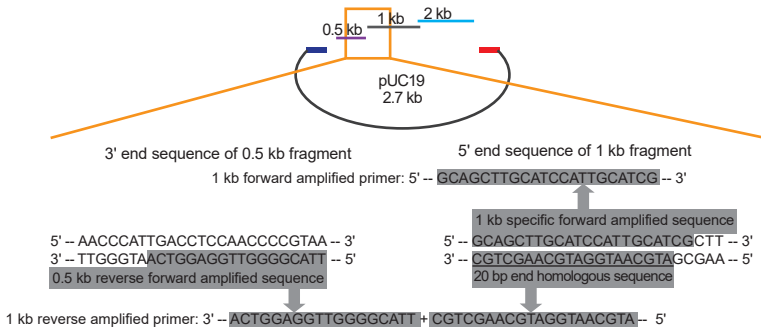

Fig 3. Primer Design for Multi-fragment Homologous Recombination
- Introduce homologous sequences (15 - 20 bp) from 5' end of the latter fragment into 3' end of the previous fragment (as shown in Fig 3);